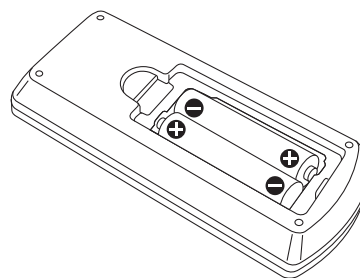

Figure 2
- 2) **Insert the batteries and close the cover (insert the \ominus end first). (Figure 2)**